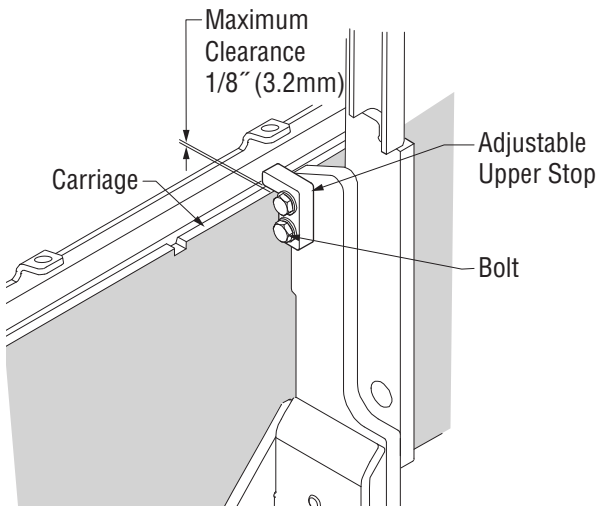

Figure 4-7, Fork Mounted Upper Stop
7. Loosen the bolts holding the adjustable upper stop and position the stop to provide clearance to within 1/8" (3.2 mm) of the top carriage bar. Tighten the bolts to the torque stated on page 18. (Figure 4-7)